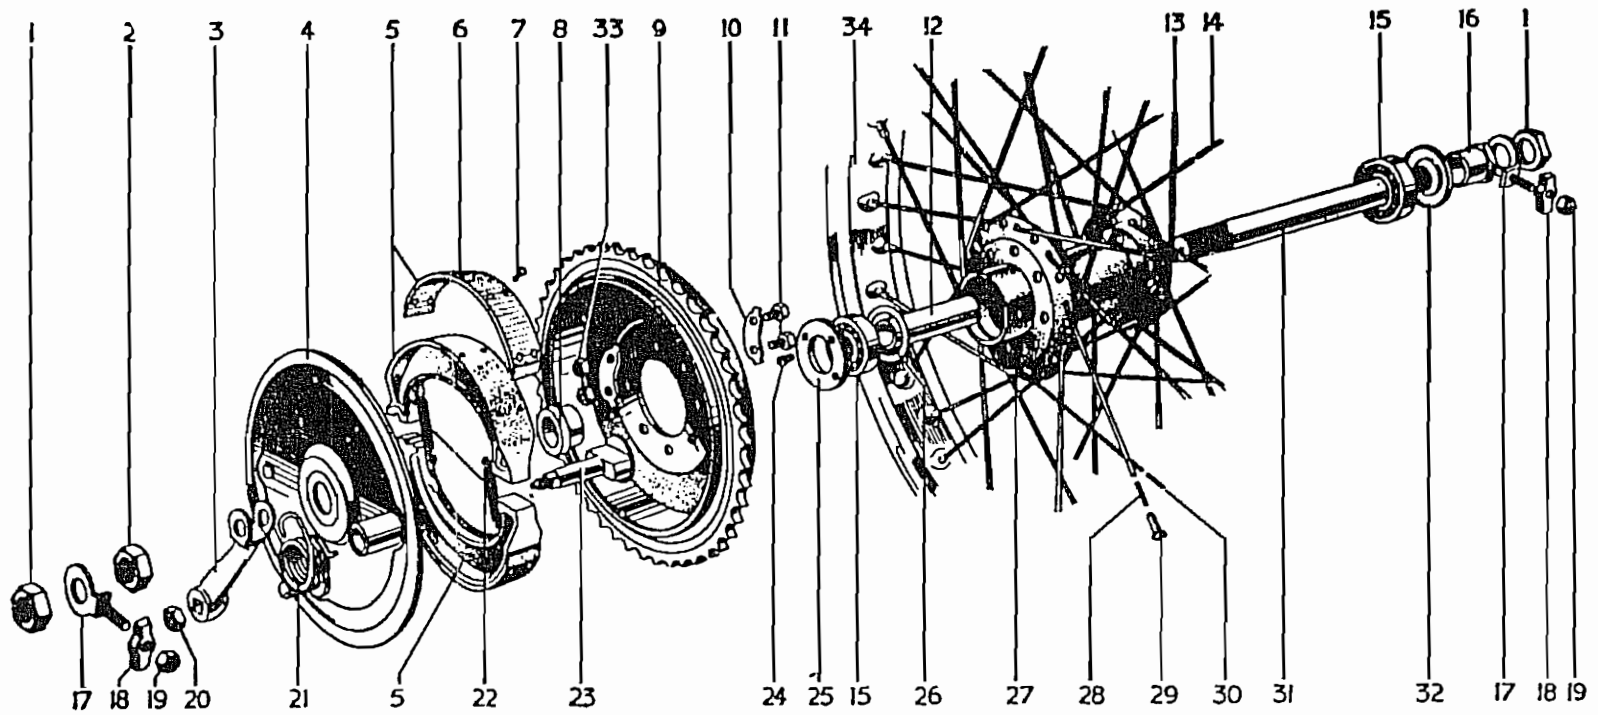

Fig. 48. REAR WHEEL (SWINGING ARM FRAME)
**INDEX TO FIG. 48.****REAR WHEEL**